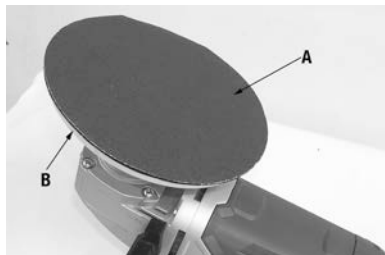

Figure 4
For sanding purposes, the 7"-80 grit sanding disk (A) Fig.4 get installed to the hook-and-loop polishing/sanding back-up pad (B).